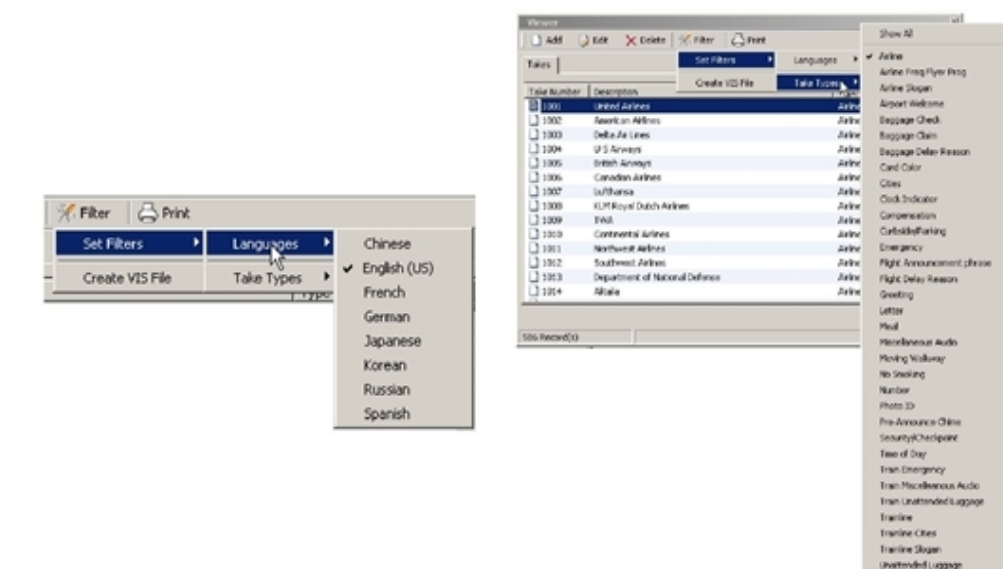

Figure 10-8: Takes Viewer Filter
3. Select the language for the takes to be displayed from the **Languages** menu (Figure 10-8).
4. Select the take type to be displayed from the **Take Type** menu (Figure 10-8). Select **Show All** to show all types in the list.